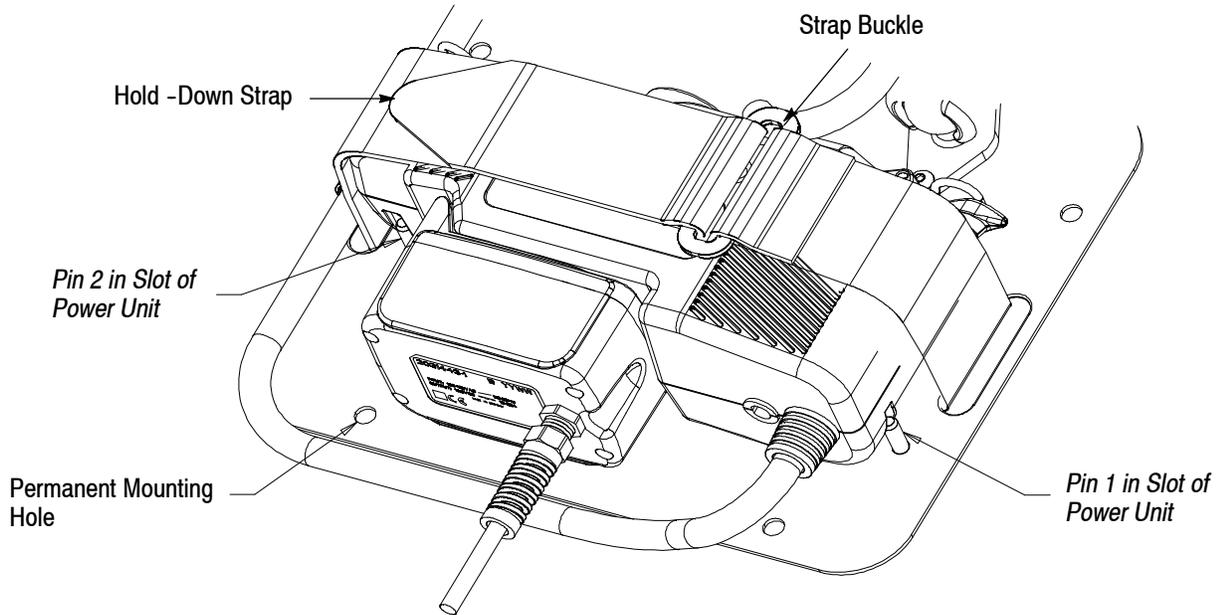

Figure 2
3. Locate the unit so that pin number one (see Figure 2) is in the slot of the power unit.
4. Rotate the power unit about pin number one until pin number two is located in the slot of the power unit as shown in Figure 2.